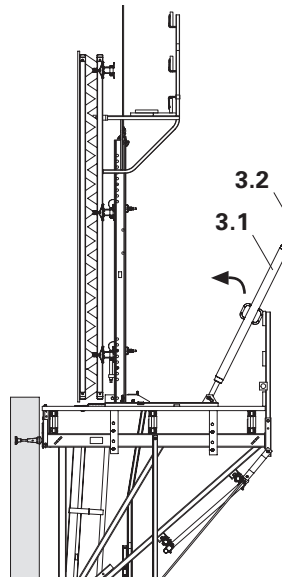
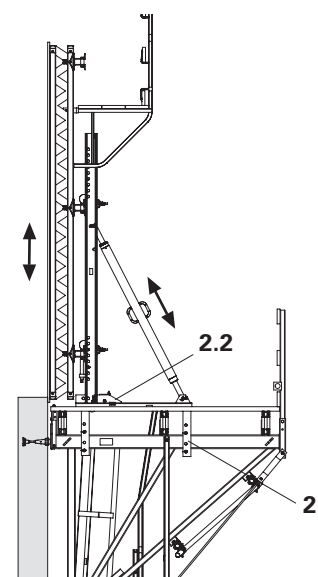

Fig. B2.08
Fig. B2.09
6. Fix adjustable brace (3.1) to strongback with bolts $\varnothing 25 \times 180$ and cotter pins (3.2). (Fig. B2.08)
9. Move carriage (2) with formwork forward to the wall and secure carriage with the wedge (2.2).
10. Align formwork. (Fig. B2.09)